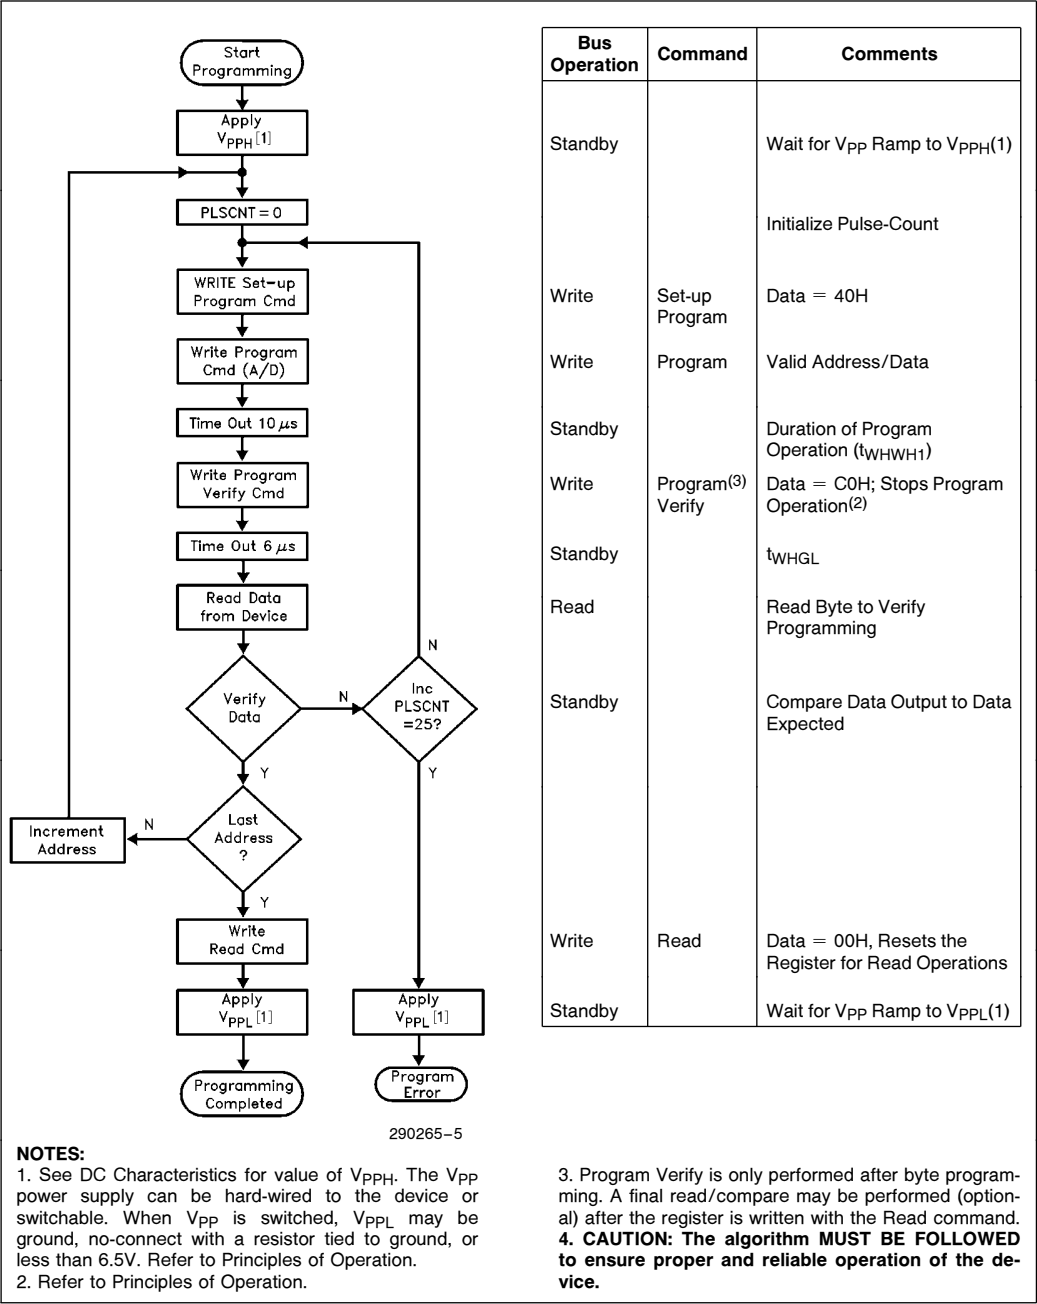

Figure 4. 28F512 Quick-Pulse Programming Algorithm
- Figure 4 illustrates the Quick-Pulse Programming algorithm.
The 28F512 applies an internally-generated margin voltage to the byte. A microprocessor read cycle outputs the data. A successful comparison between the programmed byte and true data means that the byte is successfully programmed. Programming then proceeds to the next desired byte location. Figure 4, the 28F512 Quick-Pulse Programming algorithm, illustrates how commands are combined with bus operations to perform byte programming. Refer to A.C. Programming Characteristics and Waveforms for specific timing parameters.
The Quick-Pulse Programming algorithm uses programming operations of 10 μ s duration. Each operation is followed by a byte verification to determine when the addressed byte has been successfully programmed. The algorithm allows for up to 25 programming operations per byte, although most bytes verify on the first or second operation. The entire sequence of programming and byte verification is performed with V_{PP} at high voltage. Figure 4 illustrates the Quick-Pulse Programming algorithm.